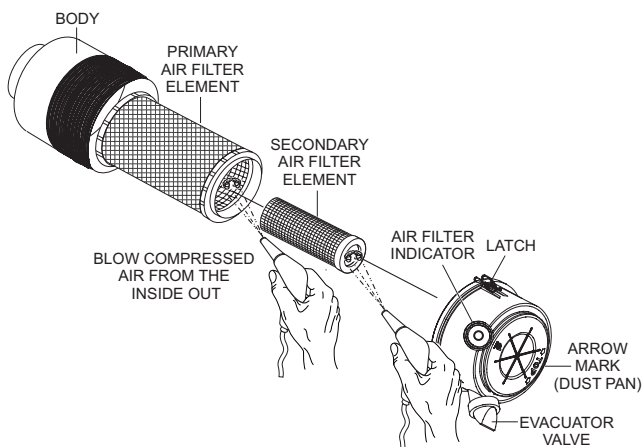

Figure 58. Engine Air Cleaner
The air cleaner (Figure 58) provided with this John Deere diesel engine is equipped with a replaceable, high-density, paper air filter element. The air cleaner is also equipped with an inner (secondary) element that is used as a backup filter should the primary element become damaged. Check the air cleaner daily or before starting the engine. Replace the air cleaner as needed.
1. Release the **latches** that secure the **air cleaner cover** to the **air cleaner body** (Figure 58).
2. Remove the air cleaner cover (Figure 58) and set it aside.
3. Remove both the primary and secondary **air cleaner elements** (Figure 58).
5. To clean the **primary element** (paper air filter) as shown in Figure 58, tap the filter element several times on a hard surface to remove dirt, or blow compressed air, not to exceed 30 psi (207 kPa, 2.1 kgf/cm²), through the filter element from the inside out.
8. Clean the inside of the air cleaner body (Figure 58).